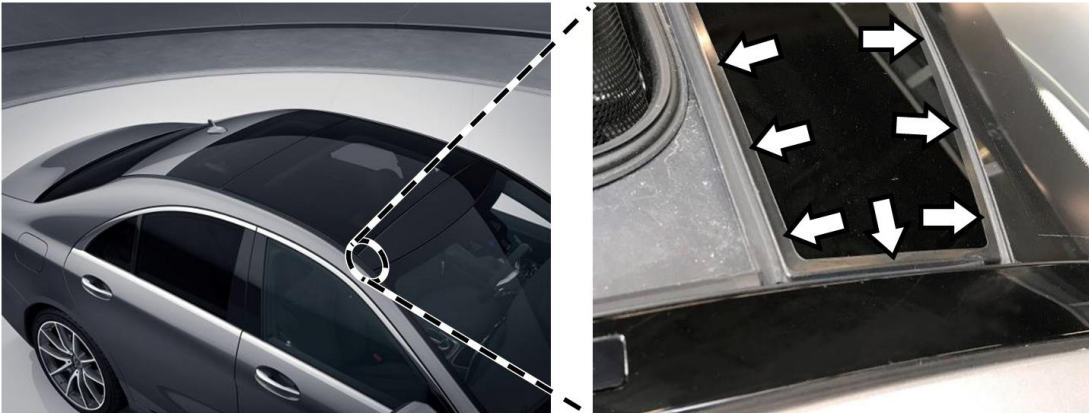

Figure 1
1. Fixed panel (**Figure 1**) made from glass. ⇨ **no repair needed**
i The fixed panel made from glass is foam-padded, the padding (**arrows, Figure 1**) is visible at the edge.